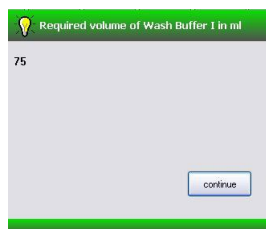

Figure 13. Requested volume of Wash Buffer I - dialog window
23. Check for the necessary volume of Wash Buffer I (Fig. 13).